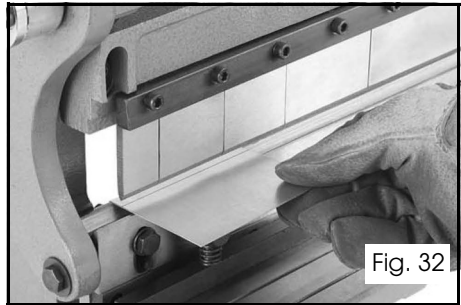

Fig. 32
2. Use the hand crank to lower the finger receiver until you can position the workpiece underneath the fingers with the bend line aligned with the tips, as shown in Figure 32.